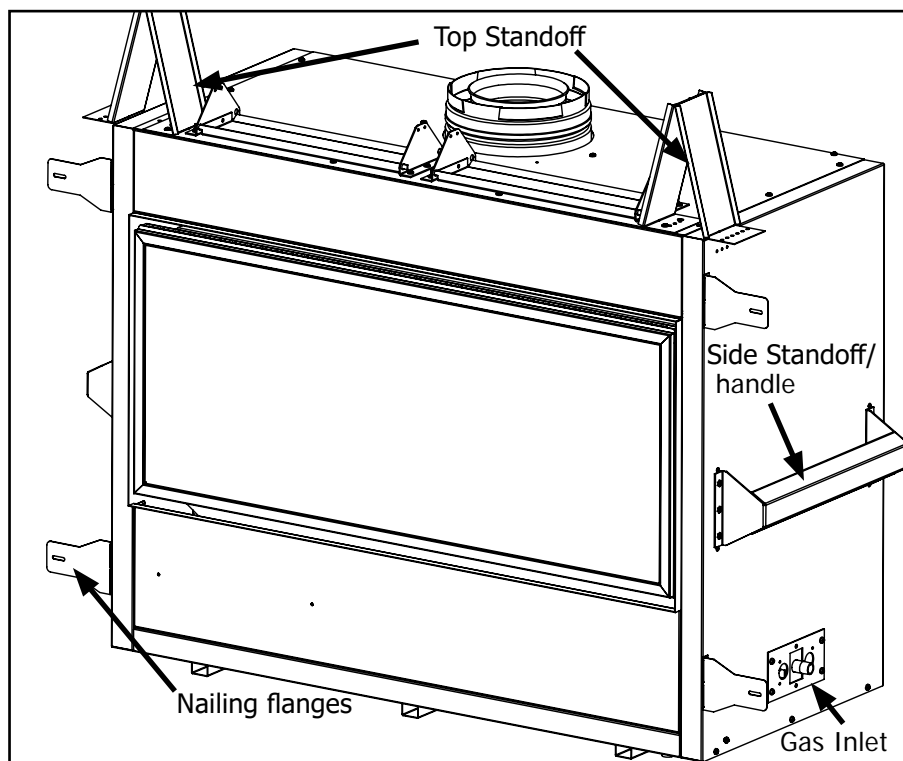

Figure 14: Fireplace Install Preperation
Take a minute to familiarize yourself with the fireplace installation parts, see figures 14 and 15 below.
- The top framing standoffs will need to be folded up and secured on both sides with T-20 screws (see figure 14).
- The side framing standoffs for this unit also double as handles for positioning and lifting. Install them as shown in figure 14.